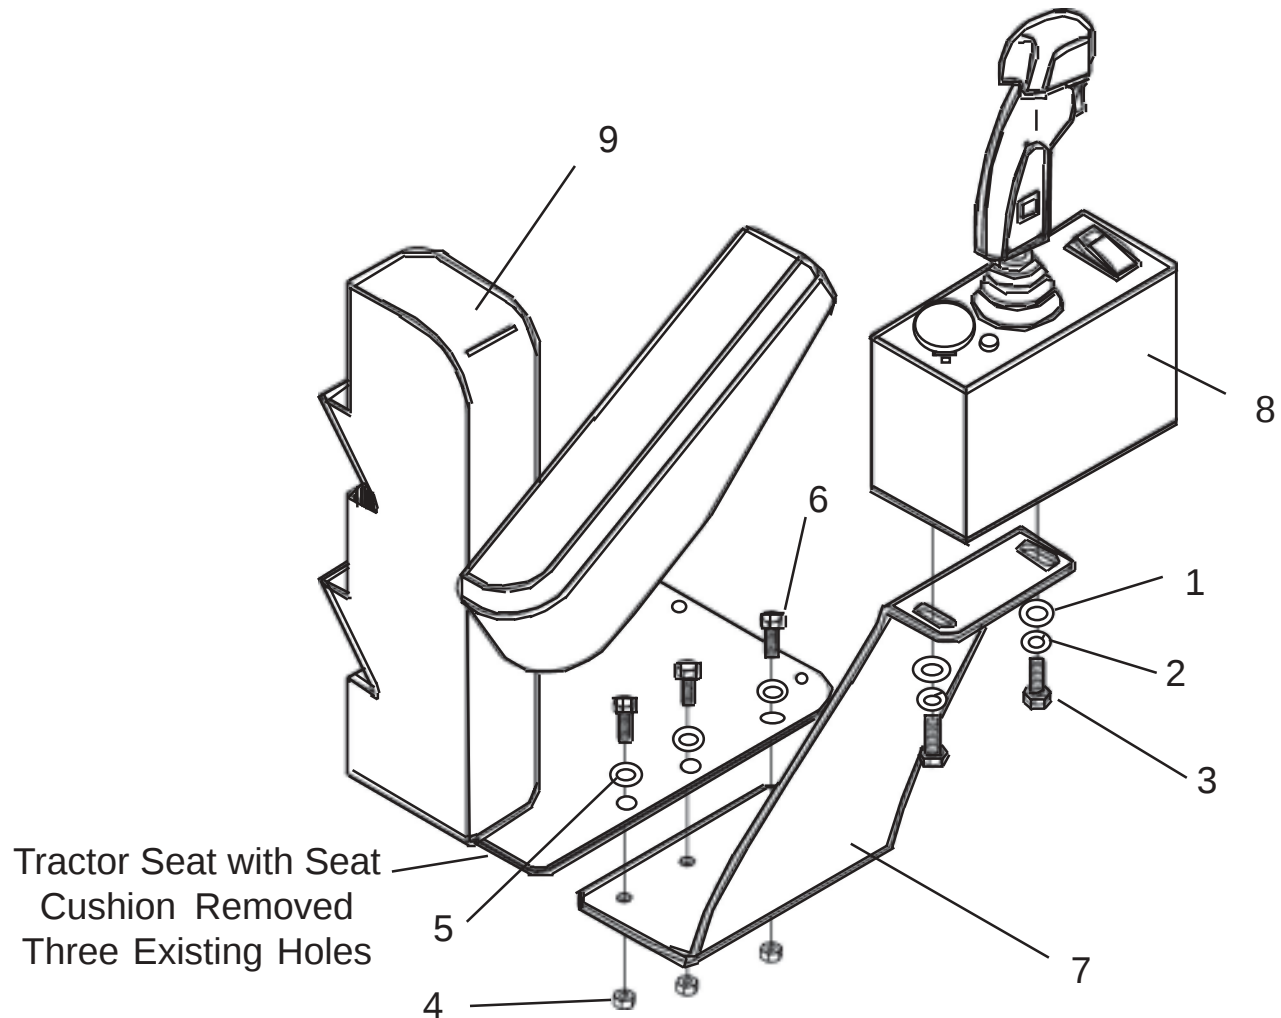

FIGURE 1
The RH End Spacer Block of the Tractor Stack Valve must be added. **This applies to units with S/N 398797 Jan. 2004 and Up only.** For tractors with Earlier S/N and Date see the front of this section for installation of the old LH end plate.. **CHECK which Valve & S/N you have before starting this assembly.** The original Stack valve does not have the Load Sense Port or the Load Sense Bleed Off Adjustment Valve. These are required to make the Machete Control Valve Hydraulic systems operate using the Tractor Hydraulic Source. Shown in Figure 1 is a drawing of the replacement RH End Spacer Block for the Stack Valve, The replacement part is furnished as part of the mount kit as Assembly P/N 02980927.
1. Hose Pressure Supply, ("P" Marked on Valve), Qty of one, # 8 hose X 190" Long, hose (# 02976714) with Red Tie. This connects to the rear of the Tractor (See Figure 1)
2. Hose for Tank Return, ("T" Marked on Valve), Qty of one, # 8 hose X 190" Long, hose (# 02976713) with Orange Tie. This connects to the rear of the Tractor (See Figure 1).
3. Hose for Load Sense, (Note Marked on Valve See Figure 1) Qty of one, #4 hose X 190" Long, hose (#02215700). This Hose connects to the rear of the Tractor (See Figure 2)
Find the two 3/8" bolt, put Lockwasher and Flatwasher on them. Start these bolts from the bottom up through Bracket and into Joystick Console. The Joystick Console holes are threaded so no Nuts are needed. Tightened the two retaining Bolts (See Figure 1 Item 3 and Figure 2).